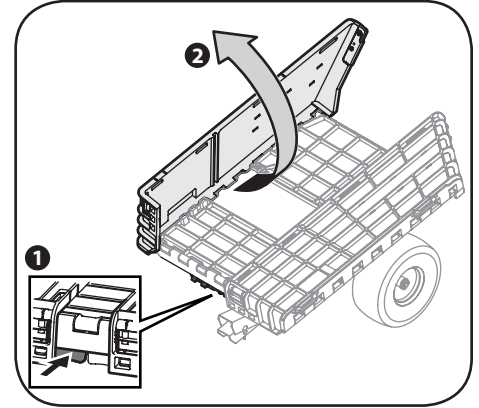

Figure 3-5
7. Locate the panel latch on the front of the hauler. Push the panel latch inward and raise the sides of the hauler bed. See Figure 3-5.